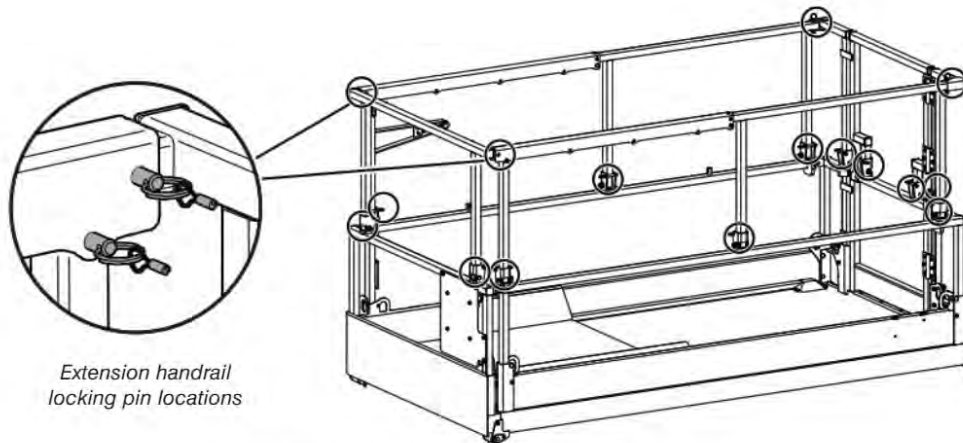

Figure 3-24. Guardrail Locking Pin locations
12. Remove locking pins from the extension handrails and slide forward. Reinstall pins as shown in Figure 3-24.
14. Verify all guardrail locking pins are in place (refer to Figure 3-24).